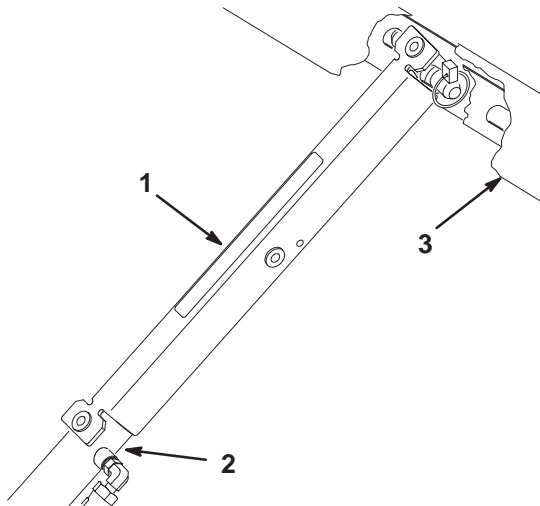

Figure 7
- C. Push bed support onto cylinder rod, making sure support end tabs rest on end of cylinder barrel and on cylinder rod end (Fig. 7).